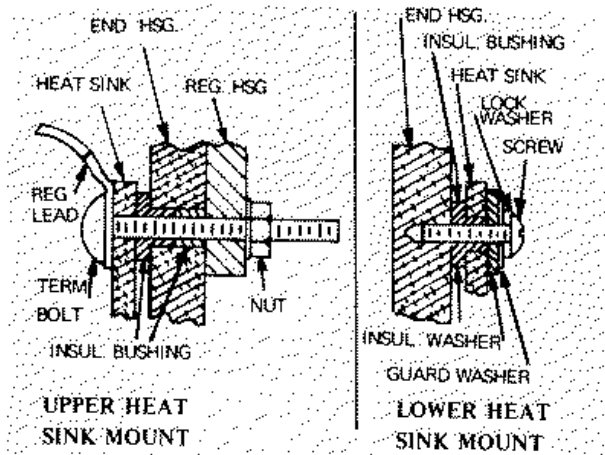

Fig. 9
- Remove two screws, lockwashers, guard washers and insulating washers which retain lower end of heat sinks. Remove heat sinks. Note location of insulating washers and bushings. (See Figure 9.)